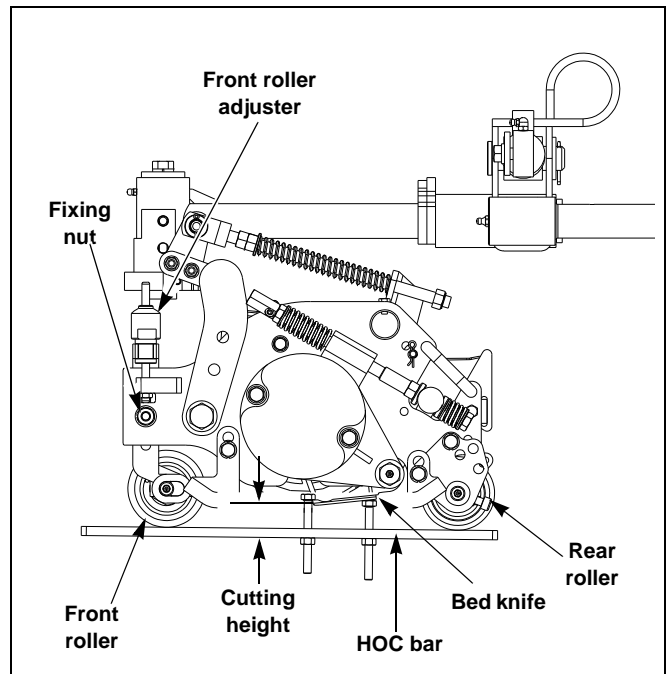

**Figure 4-50**
4. Select one of the cutting units and set the rear roller bracket in the desired cutting height range. Figure 4-50 or Figure 4-51